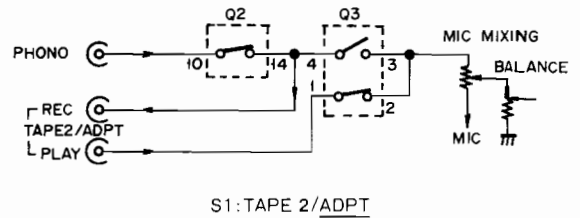

Fig. 8-10 Switching of the TAPE 2/ADPT Switch
2. And since -B is applied to pin 5 of Q3 via S1, the switch formed by pins 3 and 4 of Q3 is switched off. Therefore, TAPE 2 mode remains unchanged when the TAPE 2 switch (S210) is switched on and off. The signal route is outlined in Fig. 8-10.